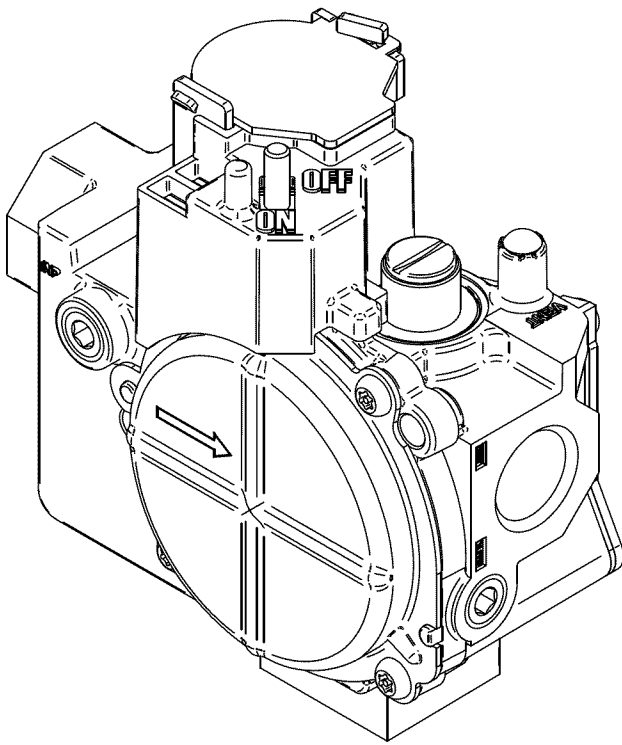

Fig. 42 - Gas Control Valve
- Remove manifold pressure tap plug from gas valve. (See Fig. 42.)